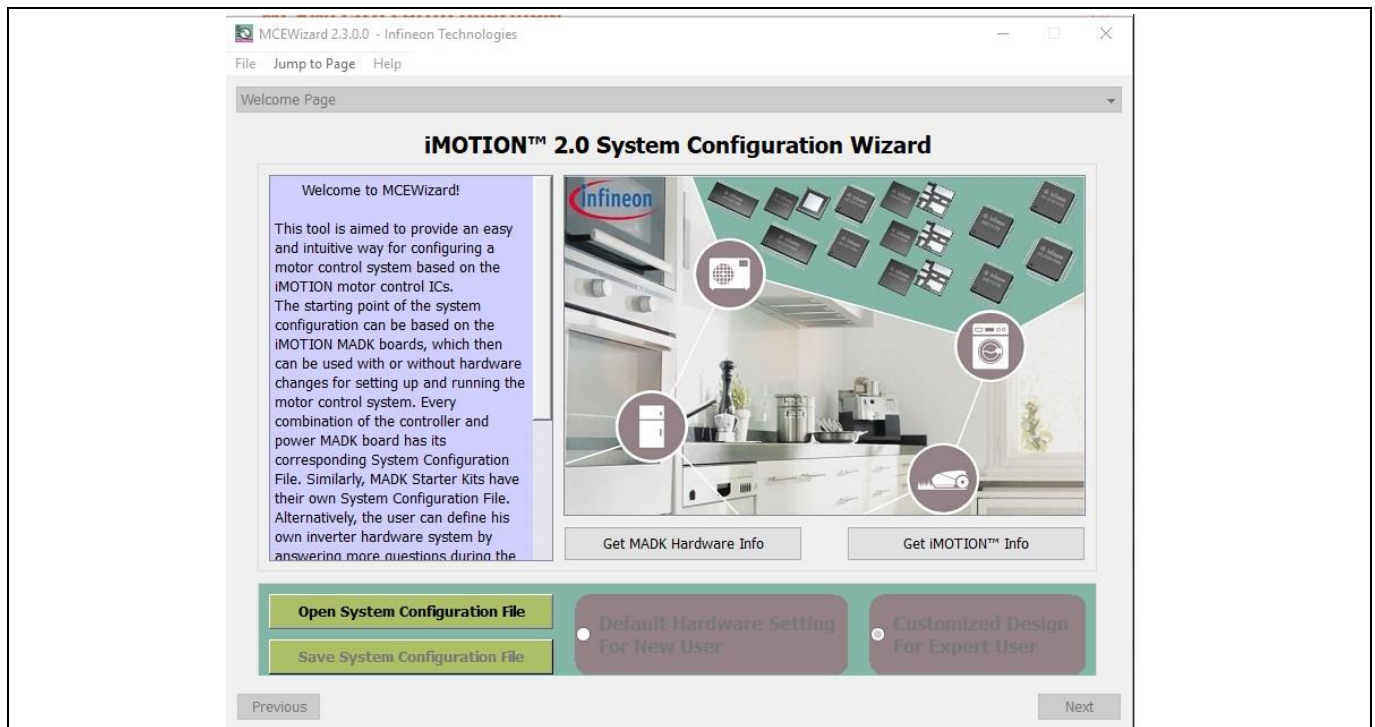

Figure 4 MCEWizard welcome page
- Double-click the MCEWizard shortcut on Windows desktop, the MCEWizard welcome page is shown as in Figure 4.